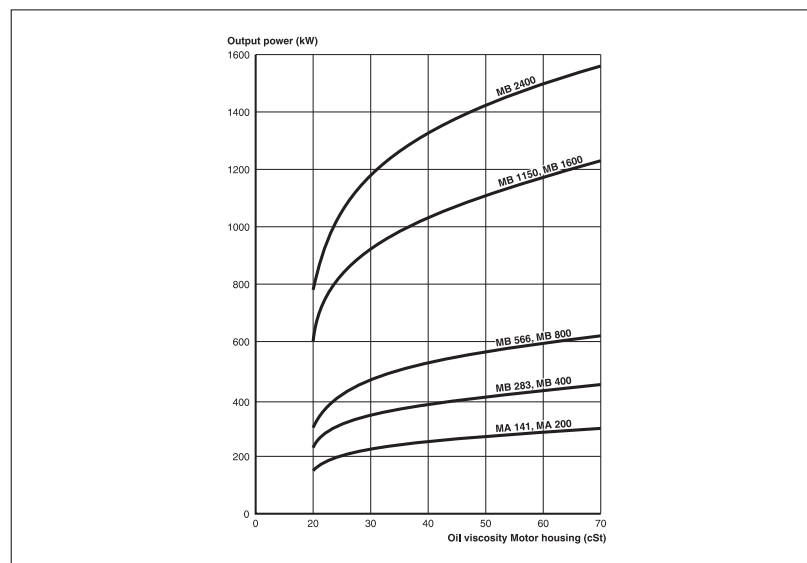

Fig. 4.3
- When starting up the motor it is important that the motor output power is limited to 75% of max power according to technical data, see Fig. 4.3. A not run-in motor in combination with dirt particles in the oil can badly affect the sliding surfaces in the motor. This is valid during the first 100 working hours.